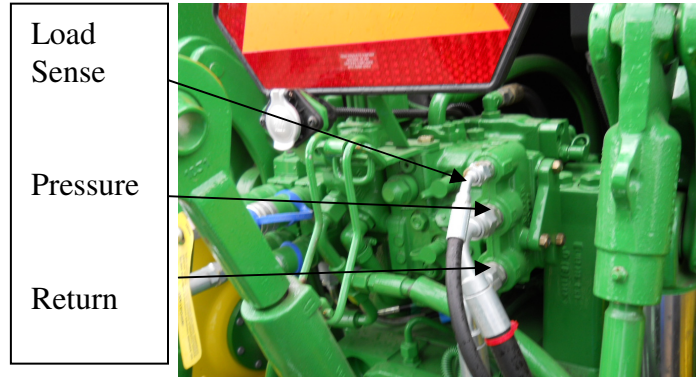

Fig 1-1
2. First, attach power beyond block kit (Part #8) using longer studs (Part #34) to right hand side valve stack. **See in Fig. 1-1.** Once that has been done, attach the valve plate (Part #5) onto the RH side of the tractor behind the rear mount. Secure with two 14mm – 2.0 P x 45mm HH cap screws, flat washers and lock washers (Part #30, 29 & 28) or 16mm – 2.0 P x 50mm HH cap screws, flat washers and lock washers (Part #31, 27 & 28). **See in Fig. 1-2.**